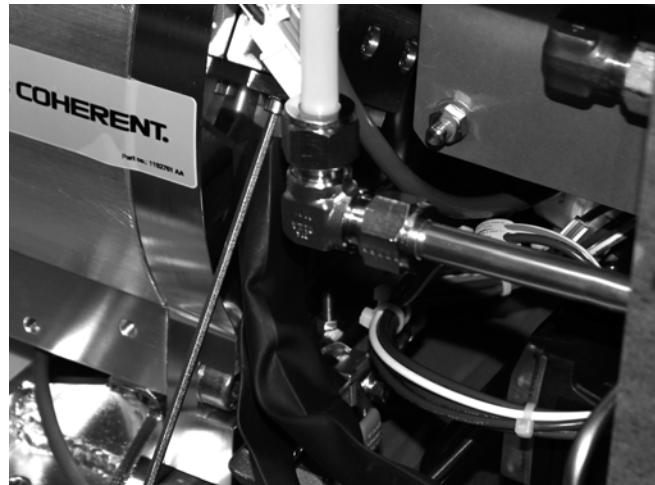

Figure 24: Loosening the water line connection pieces
26. Use the 3 mm allen key to loosen the four screws securing the water line connection pieces (see Figure 24).